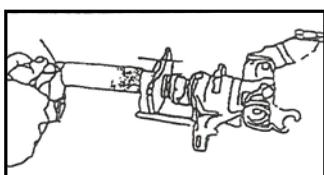

FIG 4
Press the release bottom(2) and pull the lever(4) to take the pressure spindle(5) out from brake-hat. See FIG 4.